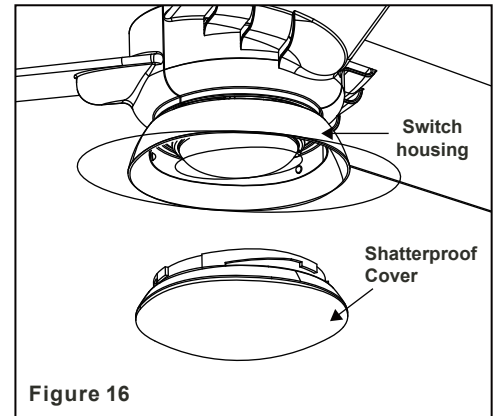

Figure 16
Step 3. Secure the Shatterproof Cover to the switch housing by twisting in a clockwise direction. Do not over-tighten(Fig.16).